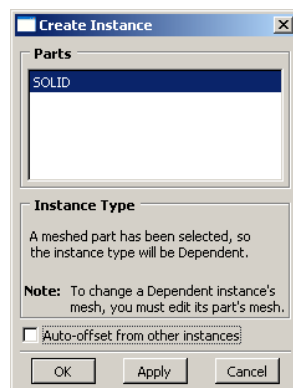

Figure 18. Create Instance Dialog Box
- Double click on the **Instances** icon in the expanded model tree. This feature will allow multiple parts to be brought into the assembly. The **Create Instance** dialog box will appear (Figure 18).